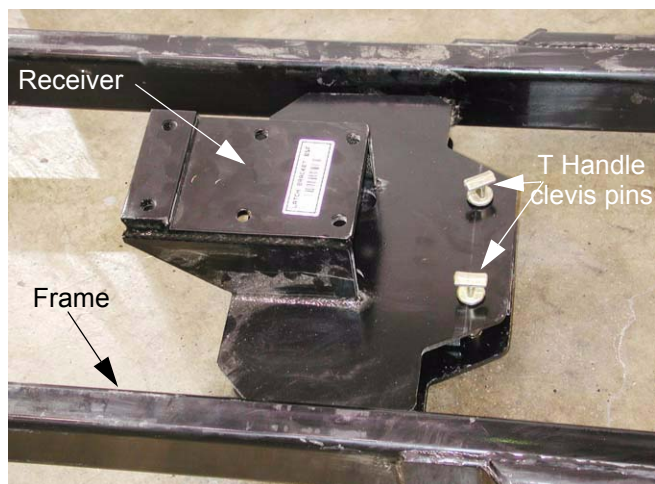

Figure 1.5
- 1.5. Test fit the latching bracket to the mounting frame, and secure it with the T Handle clevis pins to ensure that it is seated fully. See Figure 1.5.